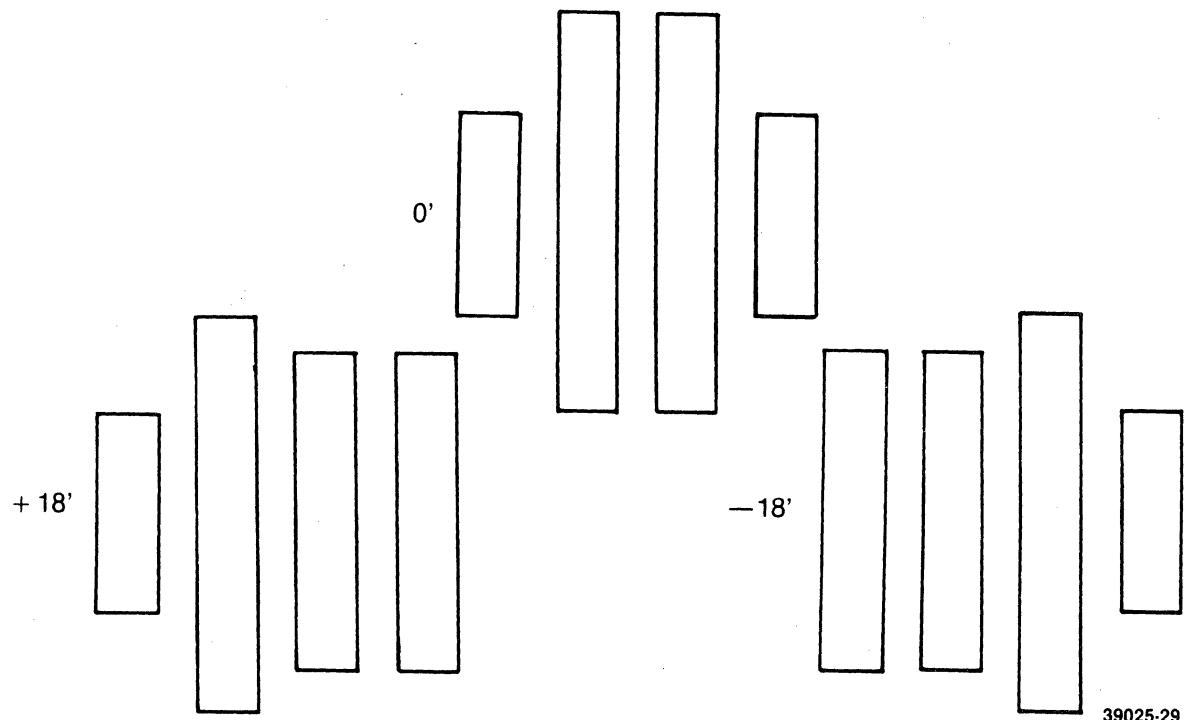

FIGURE 5-13. AZIMUTH BURST PATTERNS
- f. Compare wave form to figure 5-13. If not within range shown (± 18 minutes), head Azimuth will require adjustment. If required, proceed to next step.
- i. Pry right hand side of stepper plate up with medium screw driver until first and fourth sectors have equal or less amplitude than middle two sectors. See figure 5-13.